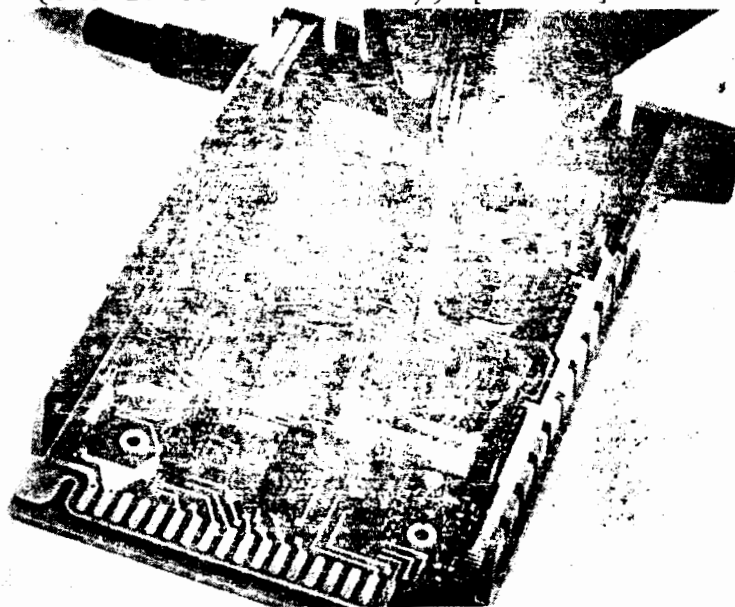

Figure 2-3. Setting the Select Code
3. Locate the Select Code Switch (see Figure 2-3). Raise the hinged cover on the switch. Using a small, flat-bladed screwdriver, carefully rotate the selector-tab until it is positioned at the desired select code number (numbers are printed on the side and on the top cover of the switch). Before closing the cover, be sure the slot in the selector-tab is positioned at a right angle with respect to the length of the switch.